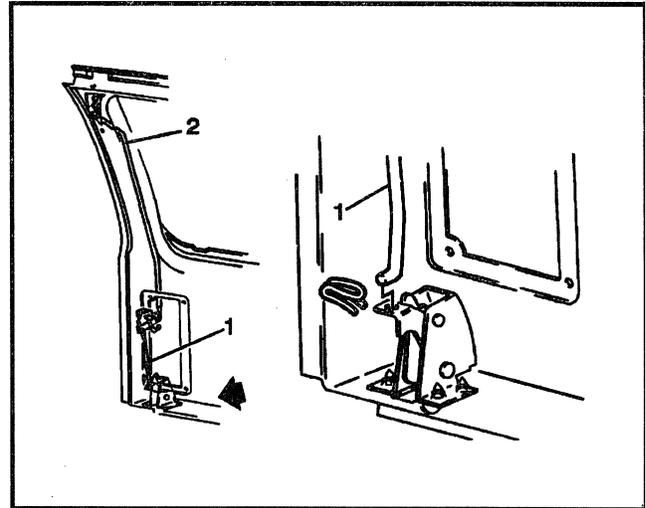

Figure 95—Lower Latch Control Rod
◆◆ Remove or Disconnect (Figures 95 and 96)
4. Control rod from latch (Figure 95).
➡➡ Install or Connect (Figures 95 and 96)
3. Control rod to latch (Figure 95).